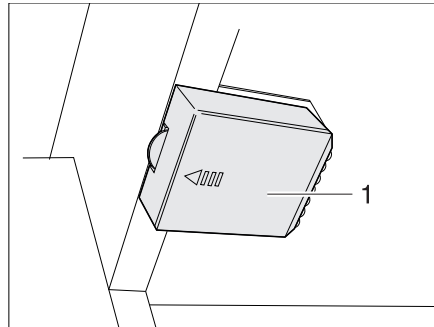

Fig. 182 Wardrobe light with LED, battery compartment closed
- Push the cover (Bild 182,1) in the direction of the arrow.